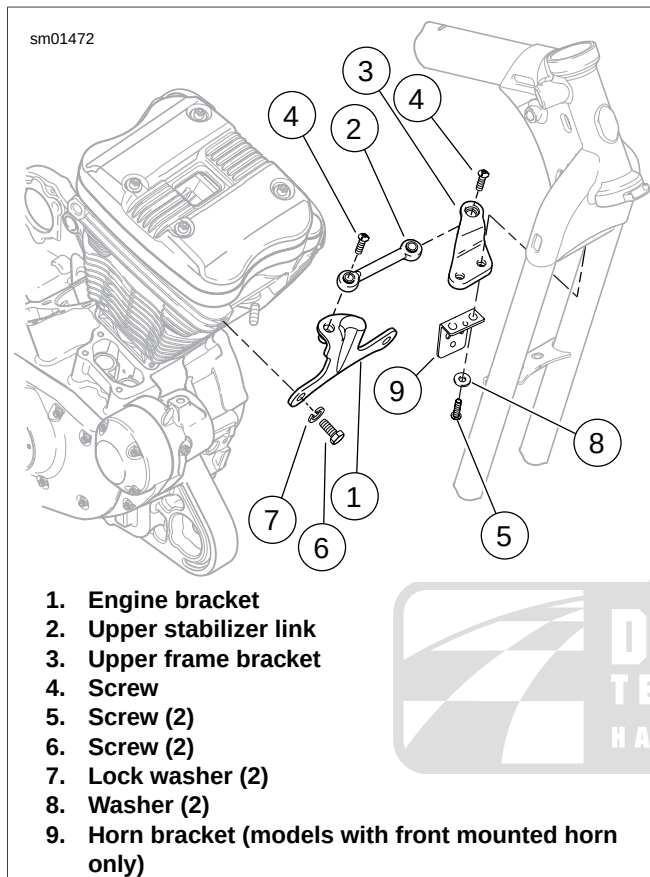

Figure 3-41. Upper Front Stabilizer Link Assembly (typical)
- d. Throttle Position (TP) sensor connector [88].
12. See Figure 3-41. Remove upper front stabilizer link and frame bracket:
- Remove screw (4) securing stabilizer link (2) to engine bracket (1).
- Remove screws (5) and washers (8). Remove horn bracket (9) (models with front mounted horn) and frame bracket (3) with stabilizer link.